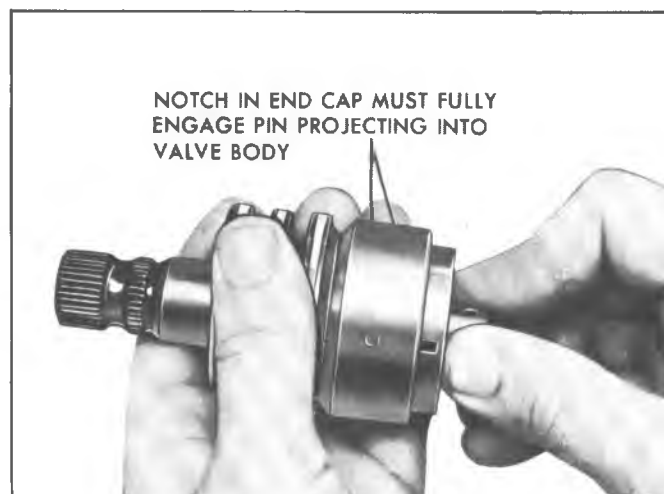

Fig. 46--Installing Stub Shaft Assembly
6. Align the notch in the shaft cap with the pin in the valve body and press the spool valve and shaft assembly into the valve body (fig. 46).